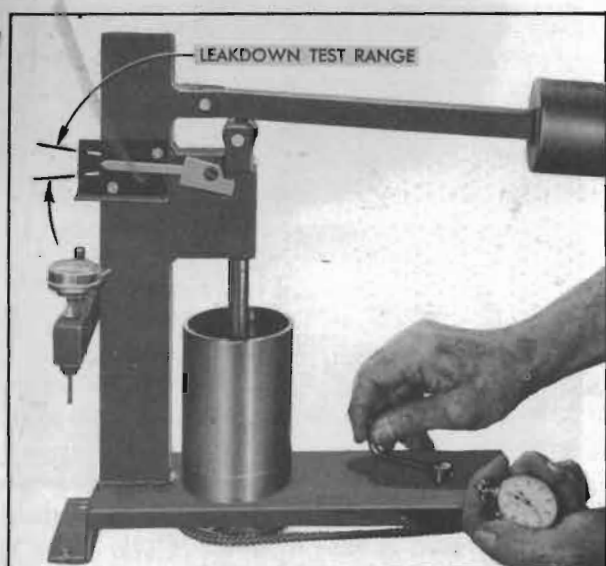

Figure 2-20—Checking Leakdown Rate
4. Lower the ram to rest in the lifter push rod seat, then lower the weight arm to rest on the roller of ram as shown in figure 2-20.
6. Raise weight arm to allow the plunger to come up to its retainer, then lower the arm to rest on the ram roller. As the pointer starts moving upward start rotating the fluid cup by turning the handle one revolution every two seconds. See figure 2-20. The cup rotates the lifter body while the weighted ram holds the lifter plunger from turning, thus averaging out any variations in clearance between these parts. NOTE: *Check occasionally to make sure that lifter plunger is not turning.*
7. Use a stop watch to check the time required for the pointer to move from the lower to the upper mark on scale, which indicates the range in which the plunger normally operates in the body. The cup must be rotated during this test. See figure 2-20.